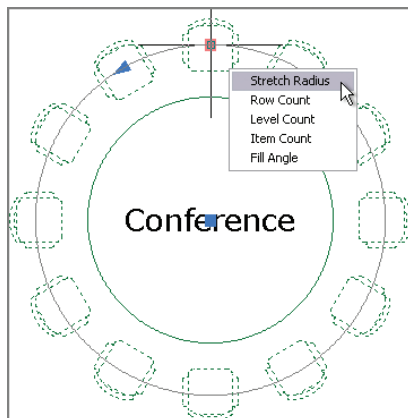

FIGURE 4.22 Editing a polar array with its grips
9. Click any one of the chairs to select the polar array. Hover the cursor over the base point grip, and choose **Stretch Radius** (see Figure 4.22). Type **5'9"** (or **175** in metric); then press **Enter** and **Esc**. The chairs more closely wrap around the smaller table.